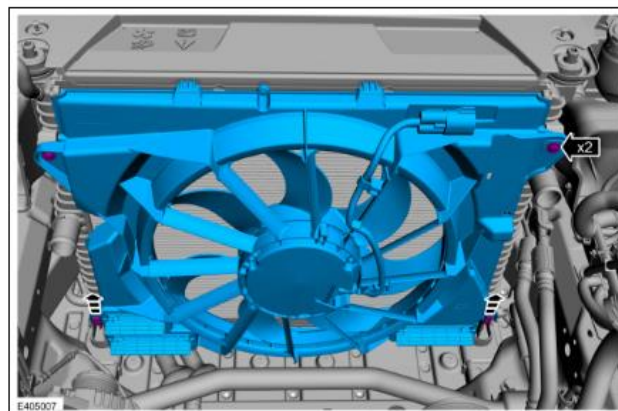

Figure 2: Fan installation
- Reinstall the fan module in the vehicle. Torque the bolts shown in figure 2 to 55 in-lbs.